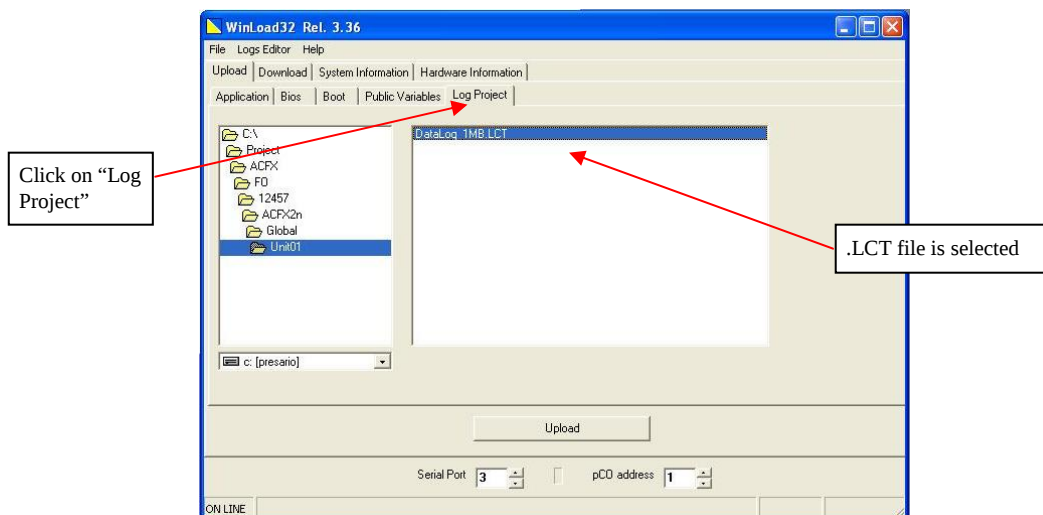

Figure 6.1.7
- vii. The next step is to select column “Log Project” and upload a .LCT file from this column. (Figure 6.1.7)